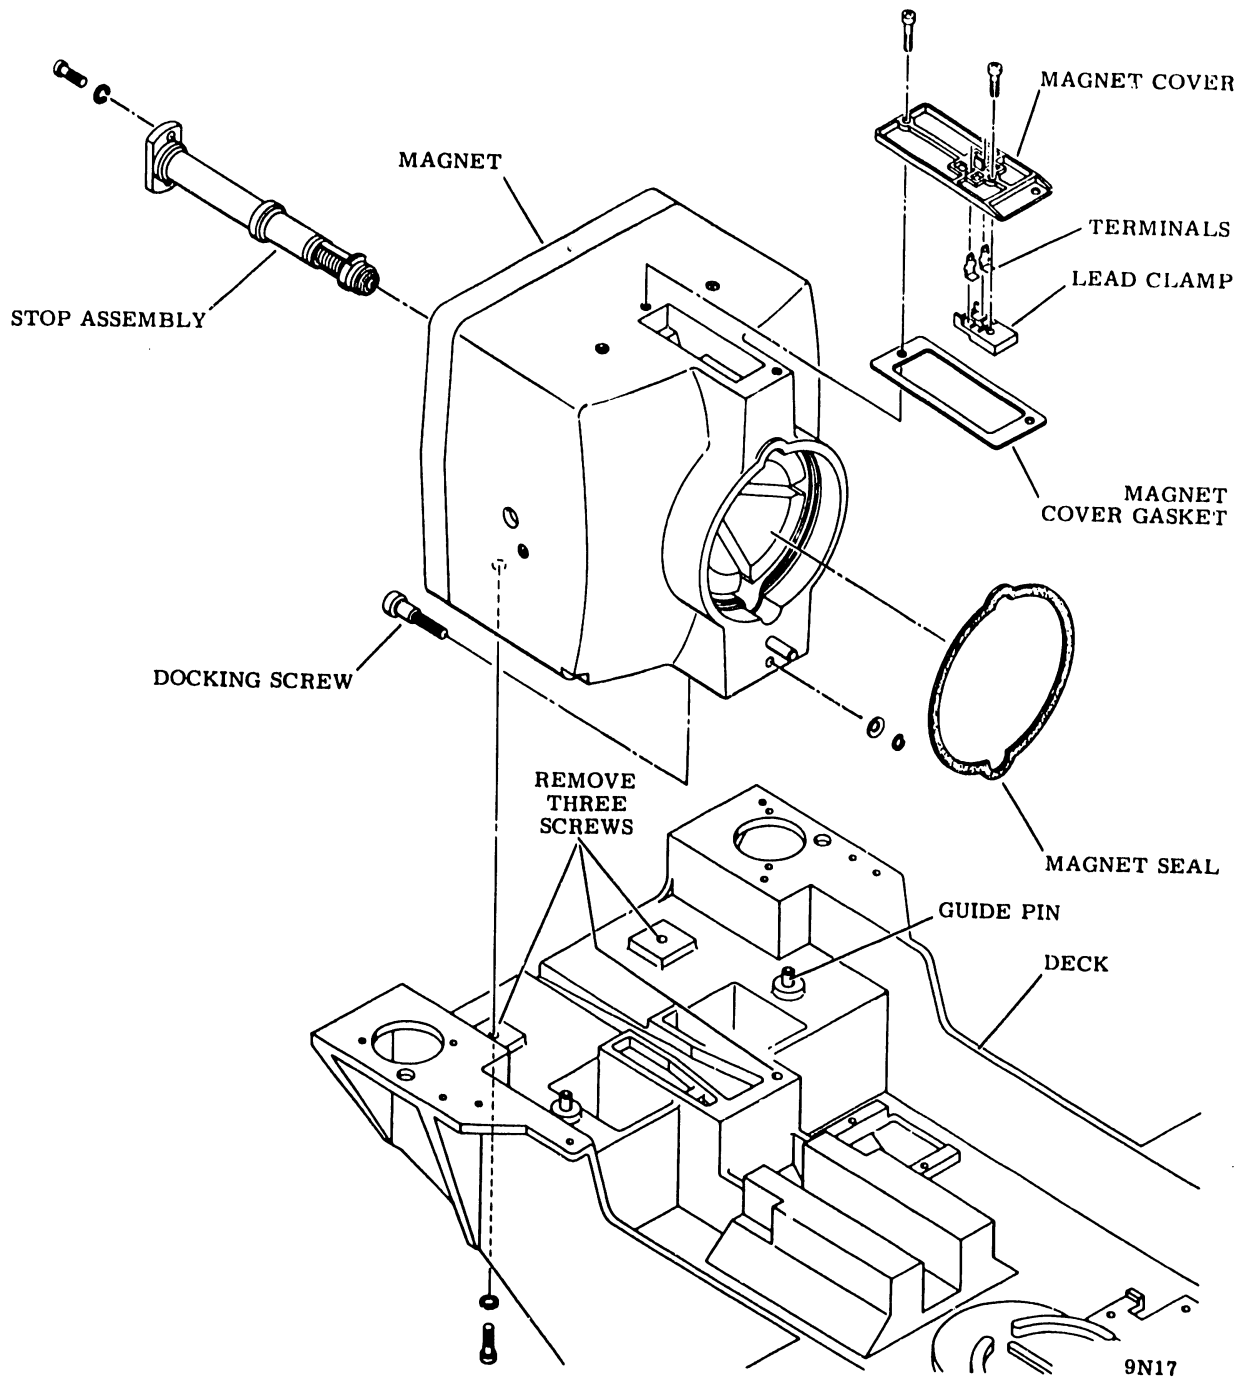

Figure 2D-21. Magnet Replacement
11. Referring to figure 2D-21, remove the following parts from the old magnet assembly, and reinstall on replacement magnet.